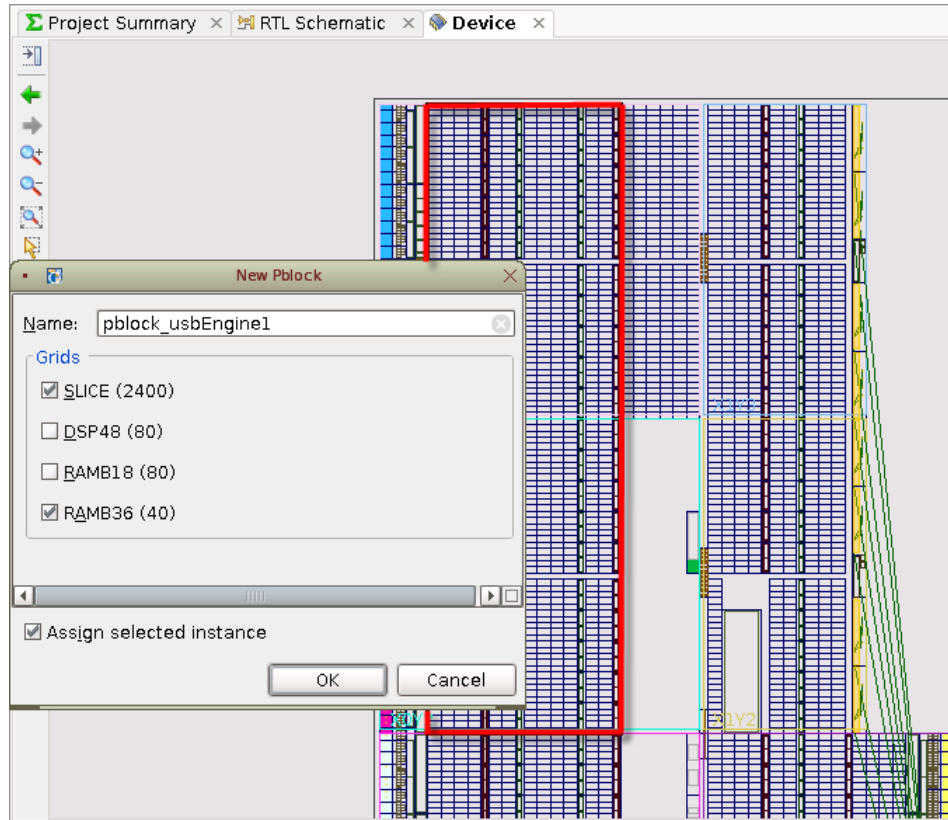

Figure 4: Pblock Rectangle for usbEngine1
5. Without releasing the left mouse button, drag to create a rectangle covering most of the top-left quadrant of the device. See Figure 4.
7. Deselect other resources that are not needed, as shown in Figure 4.
If the rectangle does not fully cover the region shown in Figure 4, the number of available RAMB36 may be less, and the design may fail to place.